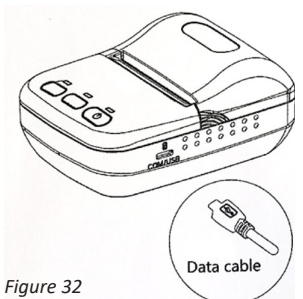

Figure 32
- Please use the data cable provided inside the printer box and connect to the data port on the printer (Figure 32).